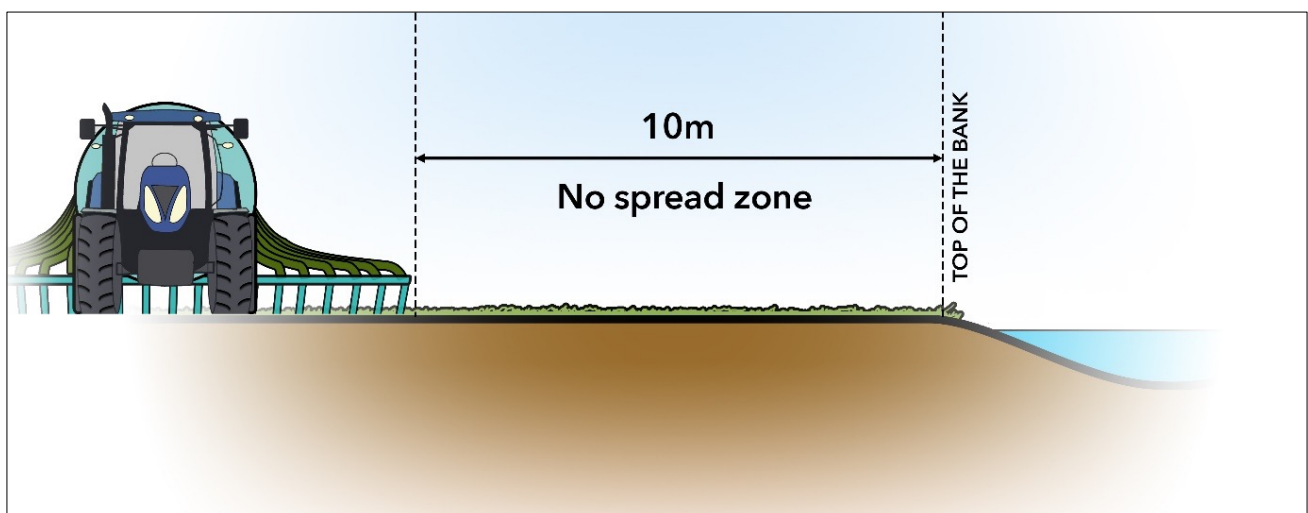

Figure 9.2. Minimum slurry no-spread zone around water courses.
- 10m of any surface water, as measured from top of bank (Figure 9.2)